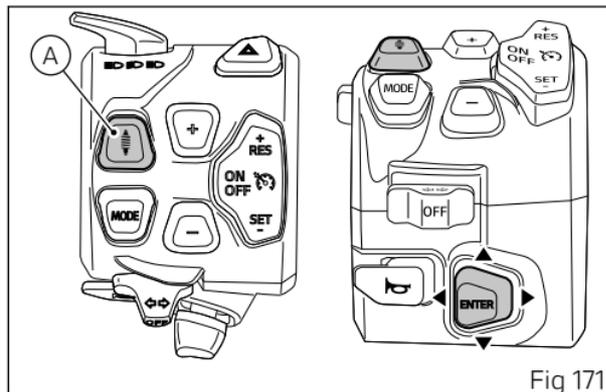

Fig 171
- Press button (A, Fig 171) to activate the specific menu.